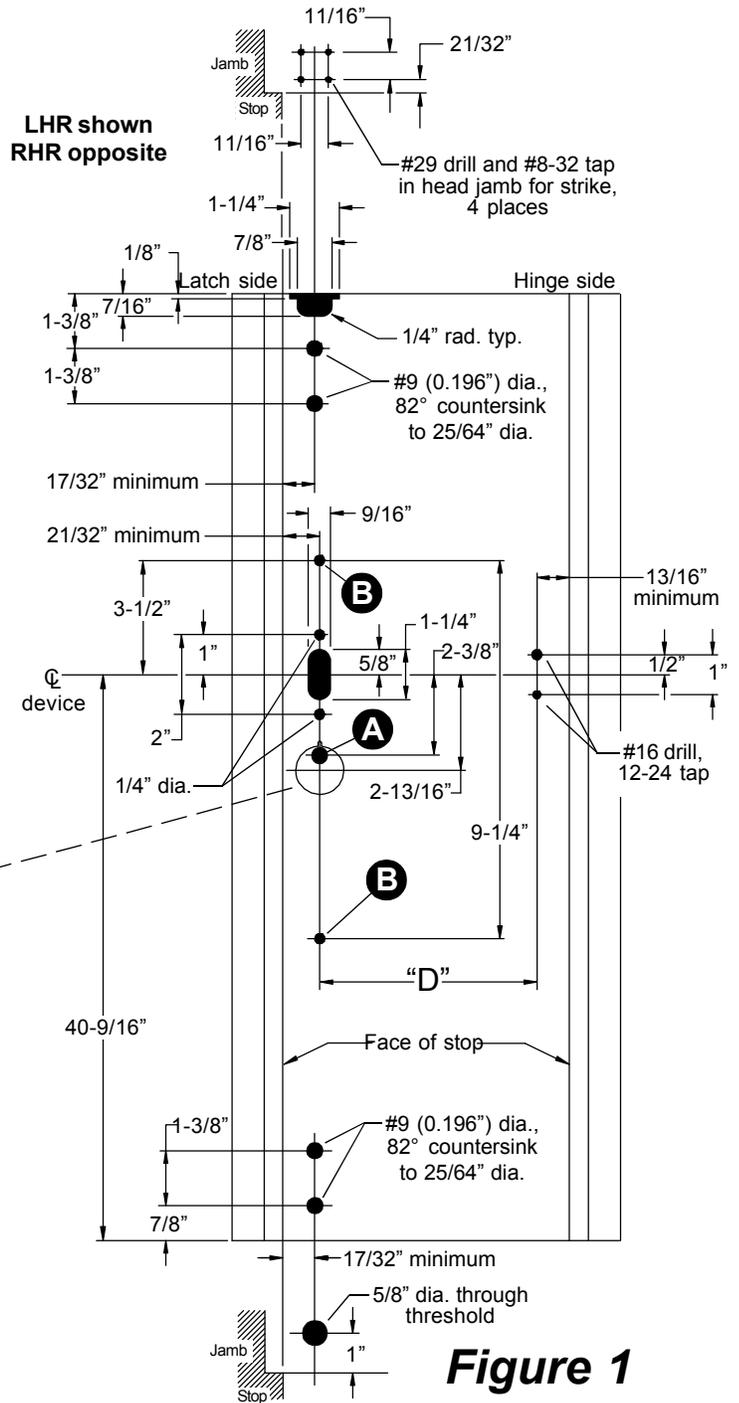

Figure 1
- 2.1. Measure C to C of mounting holes ("D" dimension on page 1, Figure 1).